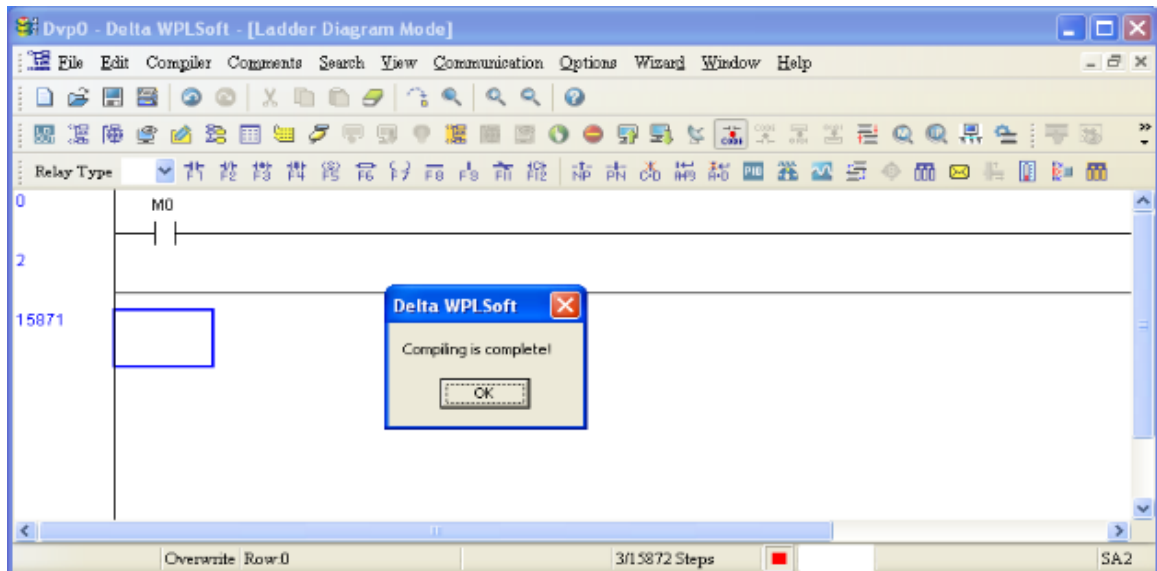

Figure 16-24
Step 5. Compile the program. On the toolbar, click the Compile button  to compile the edited ladder diagram into a command program. After compiling, the number of rungs appear on the left side of the busbar. (See Figure 16-24.)